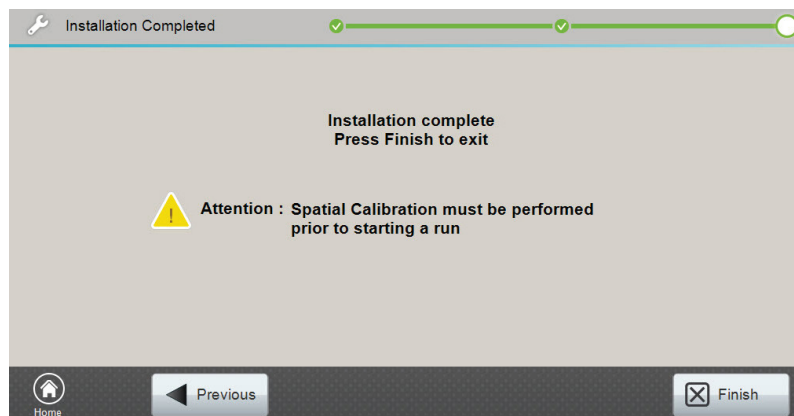

Figure 38. 'Capillary Cartridge Installation Completed' screen.
13. The Installation Completed screen for the Spectrum Compact Capillary Cartridge is displayed (Figure 38). This screen states that a spatial calibration must be performed prior to starting a run with the new Spectrum Compact Capillary Cartridge (see Section 4.1).
14. Select **Finish** on the 'Installation Completed' screen (Figure 38).
6. Select **Finish** on the 'Installation Completed' screen (Figure 38).